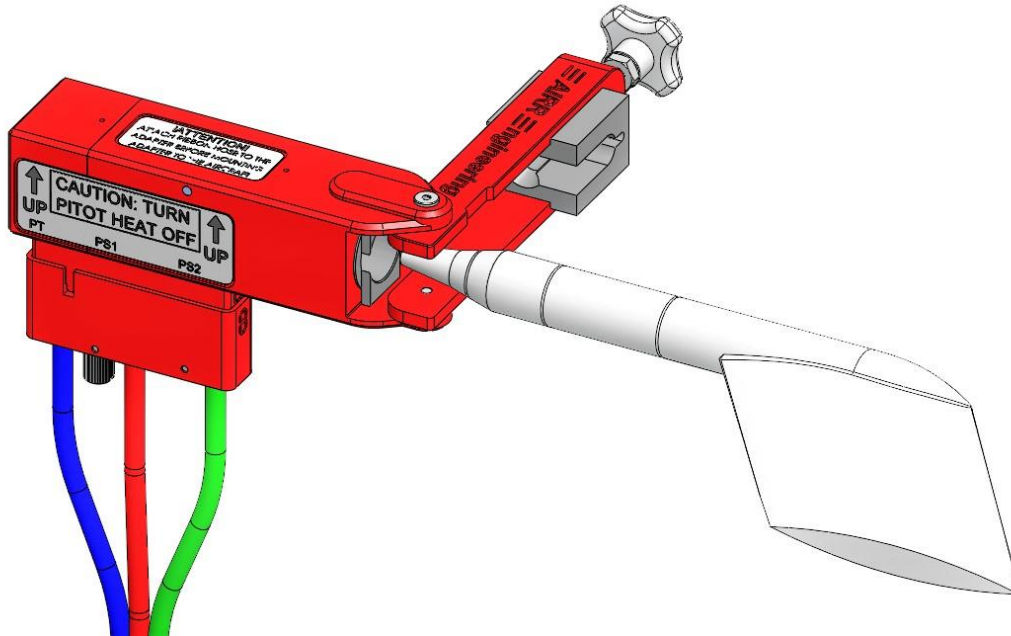

Figure 3: probe aligned
- E. Wipe probe 1 clean and align the adapter so that the cam handle is parallel to the probe mounting vane and pointing away from the fuselage (Figure 3).
H. Separate the adapter from the probe (Figure 3). Replace the dust caps and store properly.